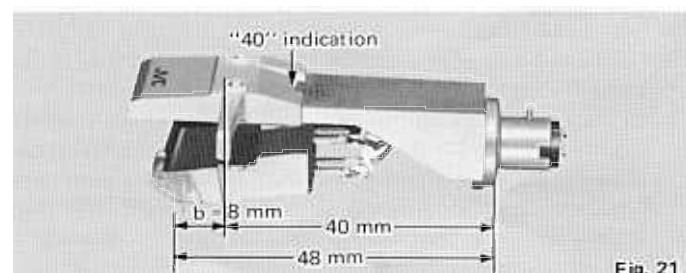

Fig. 21
- Secure the cartridge on the "40" indication of the scale, as the distance from the cartridge securing screw to the stylus tip of the provided cartridge is 8 mm. The 48 mm distance is thereby obtained. (See Fig. 21)